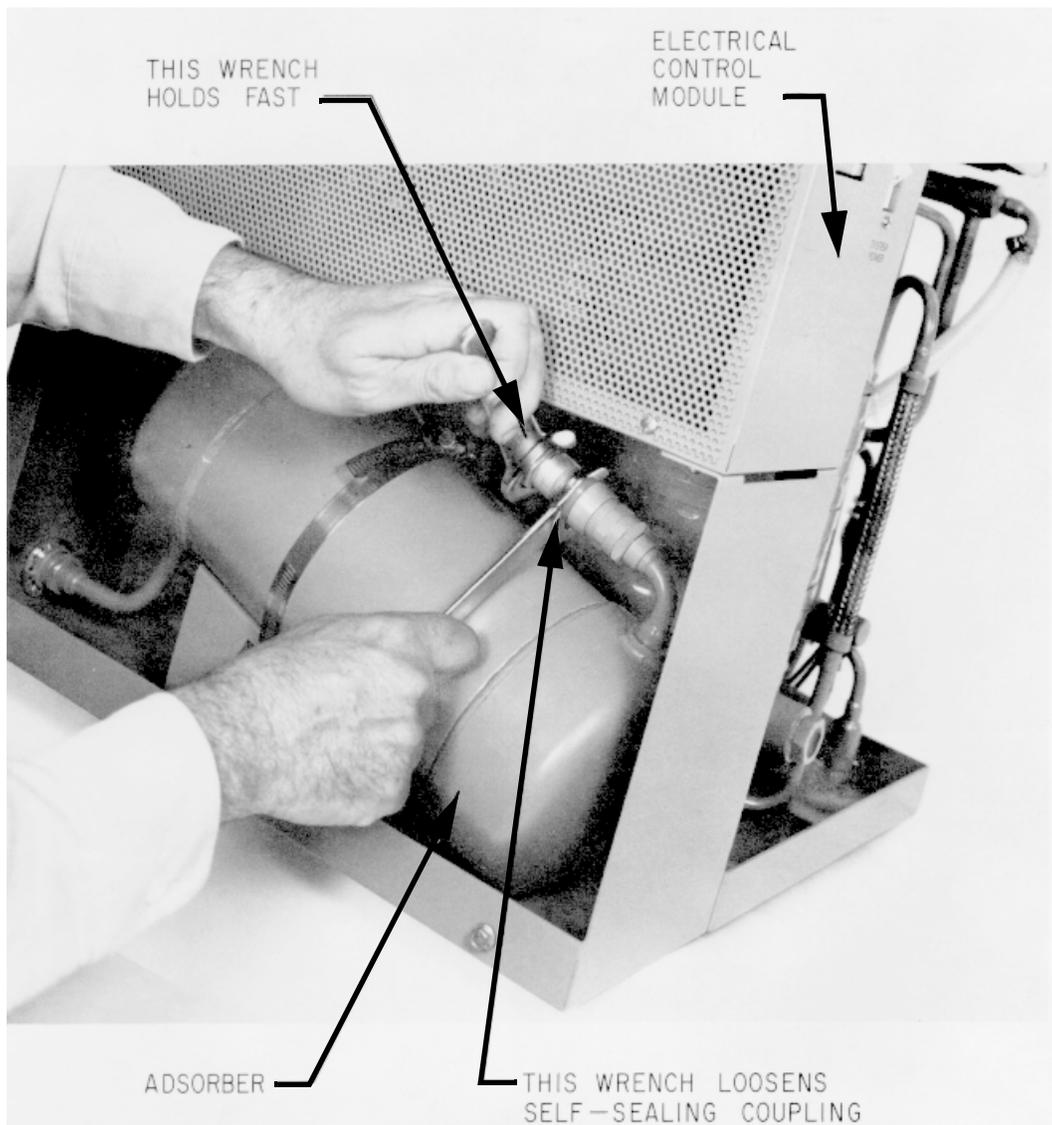

Figure 1: Procedure for Disconnecting a Self-Sealing Coupling
3. Disconnect the flexlines from the gas-return and gas-supply connectors at the rear of the compressor. Disconnect the self-sealing couplings per Figure 1.
5. Remove the adsorber from the compressor according to Figures 1 and 2. Save all nuts, bolts, and washers for installing the replacement adsorber.